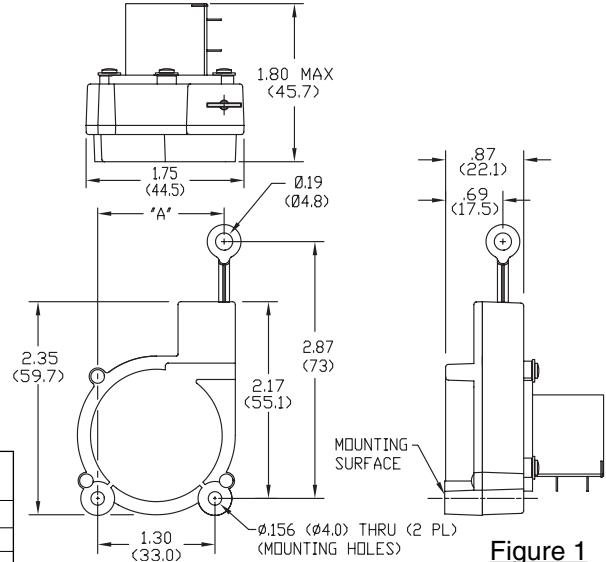

Figure 1
- Unit mounts on surface shown in Figure 1.
- To maximize cable life, align transducer with moving element so that cable exits unit within 2° of vertical (with unit oriented as shown in Figure 1).